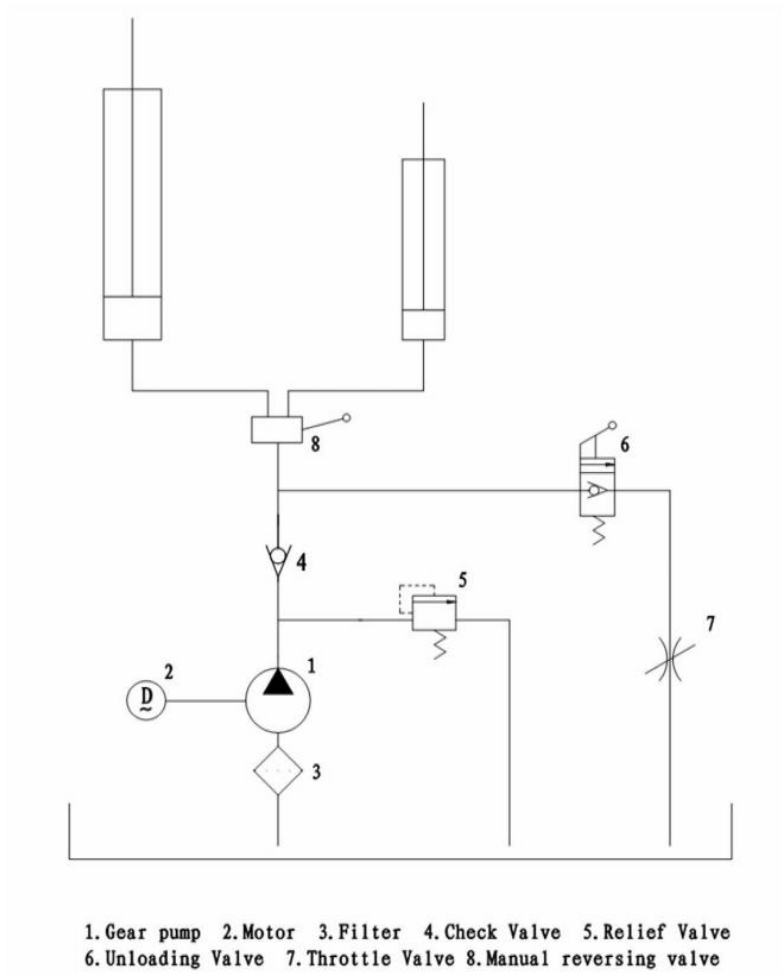

Figure 7 Schematic diagram of hydraulic system
6.10.Oil connection: connect according to the hydraulic system schematic diagram in FIG. 7 of the instruction manual. Please check whether the high pressure oil pipe mouth is clean and free of foreign matter before connecting.If any foreign matter is found, it must be blown clean with compressed air or cleaned with diesel oil.